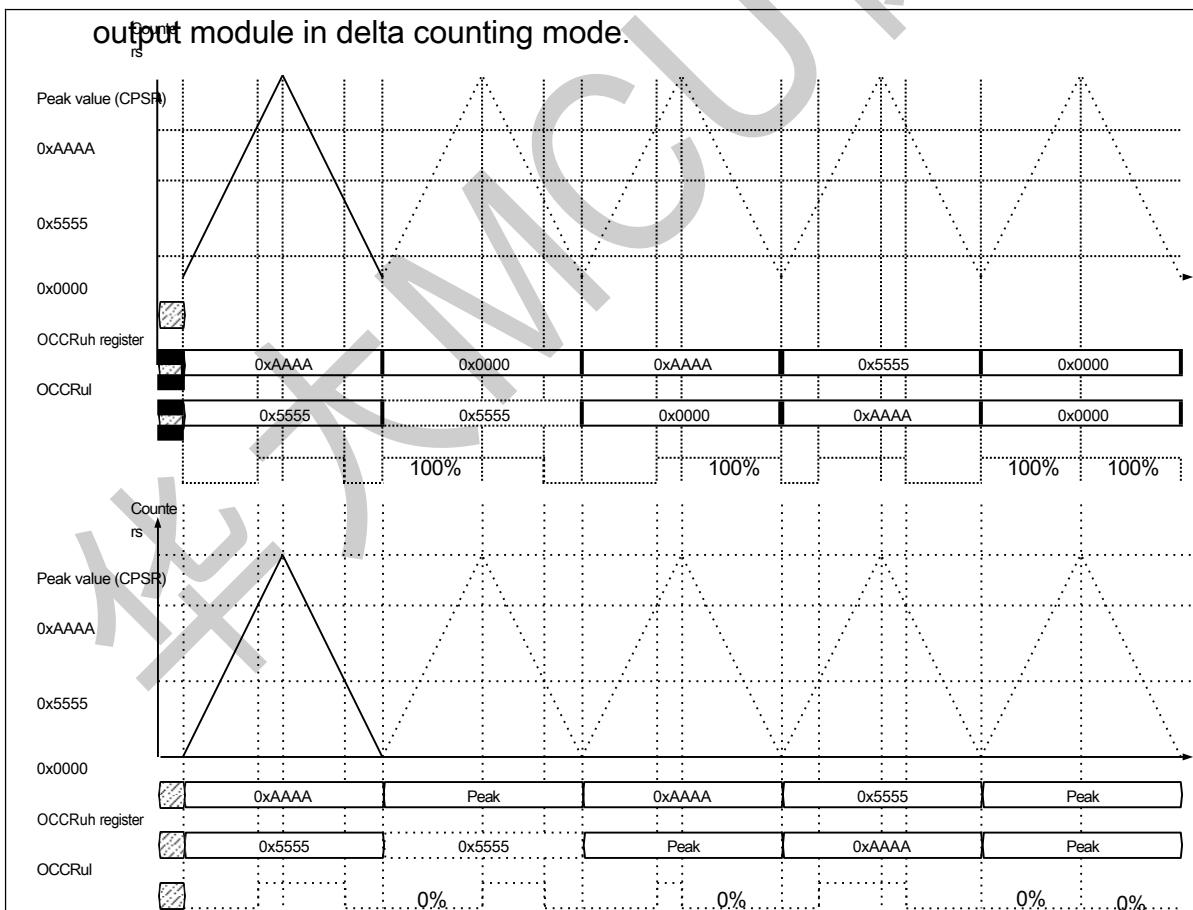

Figure 20-7 Example of triangular waveform output
- 2) Figure 20-7 below shows an example of the waveform output of the comparison